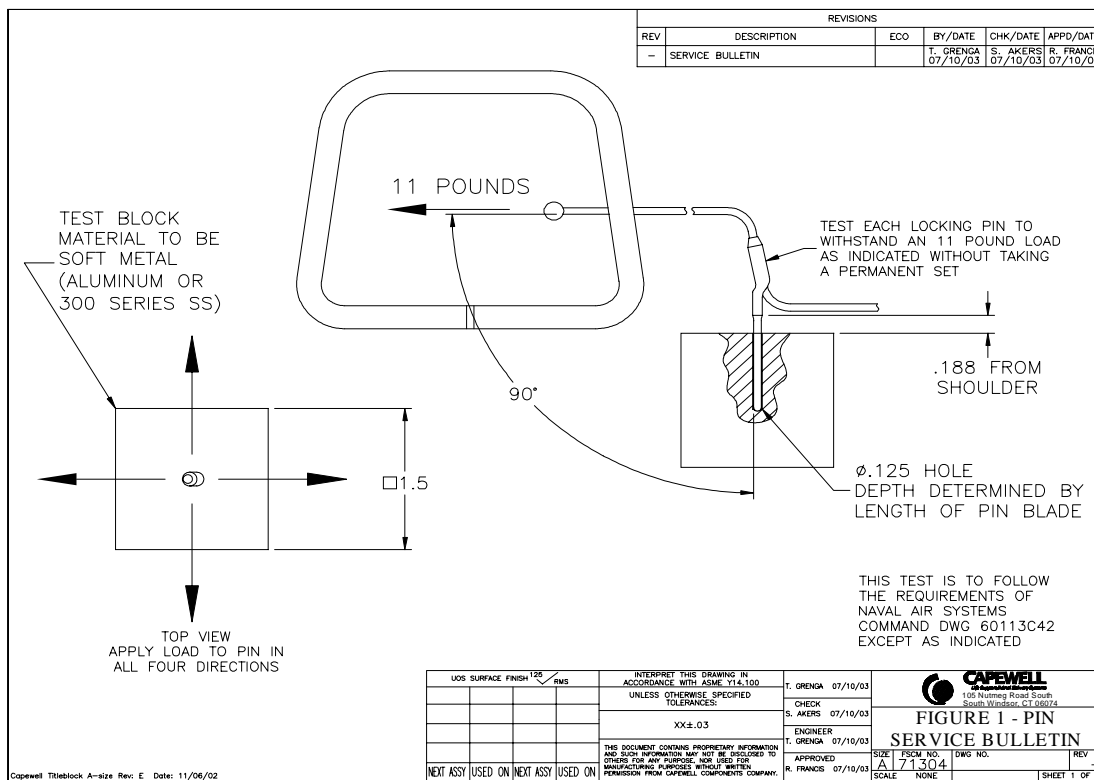

FIGURE 3
1. Place pin in test block per Figure 3 (below). NOTE: The pin block hole may be VERTICAL or HORIZONTAL